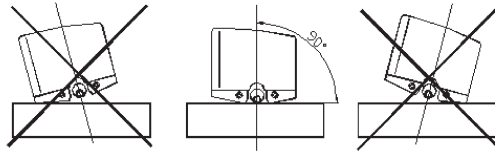
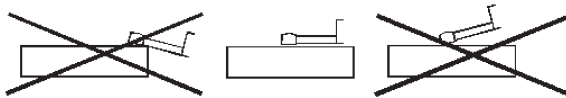

Figure 2-1 Front view
Figure 2-2 Side view
- c. Refer to Figure 2-1 and Figure 2-2 to place the instrument correctly, stably and reliably on the surface to be measured;